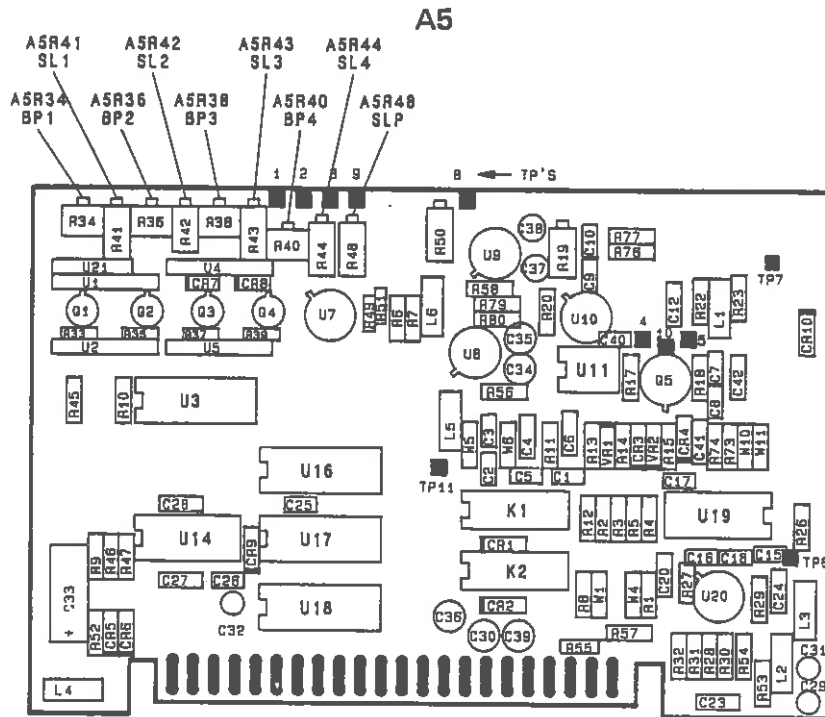

Figure 5-13. ALC Leveling Adjustment Locations
12. Adjust A5R48 fully counterclockwise. Adjust all the breakpoint potentiometers fully clockwise against the stops; these are A5R34 (BP1), A5R36 (BP2), A5R38 (BP3), and A5R40 (BP4), illustrated in figure 5-13. This effectively removes the circuit from the leveling loop.
13. BP1 through BP4 and SL1 through SL4 (figure 5-13) are interactive adjustments used to remove RF power variations. Potentiometers BP1 through BP4 set the frequency break points at which the slope adjustments SL1 through SL4 take effect. It may not be necessary to adjust all of the potentiometers.